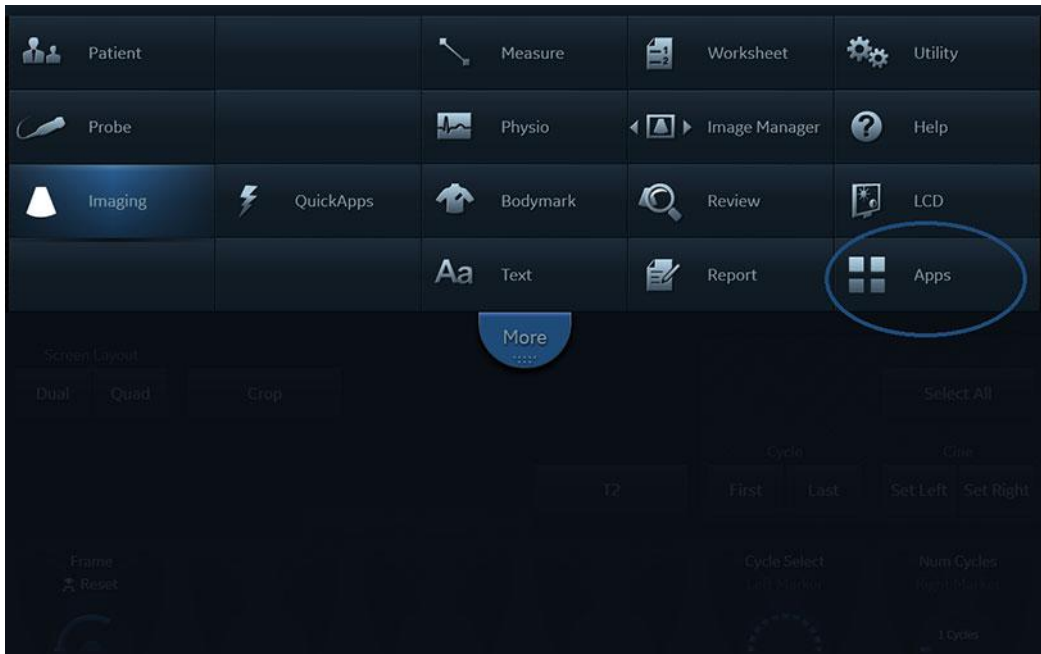

Figure 8-65. Accessing the Launchpad
1. Press **More -> Apps** on the Touch Panel (see Figure 8-65)